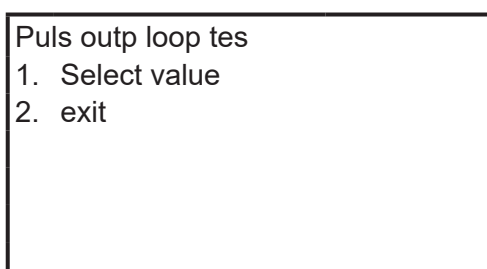

Figure 46 Selection display for pulse output check
3. The display as that shown in Figure 46 will then appear. For pulse output inspection, select “1. Select value”. If “2. exit” is selected, the display is returned back to the original menu. If F3 (ABORT) is pressed here, proceed to step 7.
5. After F4 (ENTER) is pressed, a pulse corresponding to [(pulse span frequency) x (ratio as input in 4. above)] is forcibly output. The converter will show a flickering “_IN PULSE OUTPUT MODE” message. The HART Communicator display returns to that shown in Figure 46 again. To change the output pulse, select “1. Select value” and reenter the numerical value. To finish, press “2.exit”.